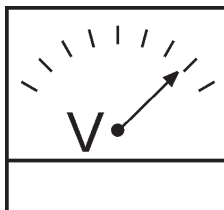

Figure 46. AC-voltmeter
7. The generator's AC-voltmeter (Figure 46) will display the generator's output in **VOLTS**.